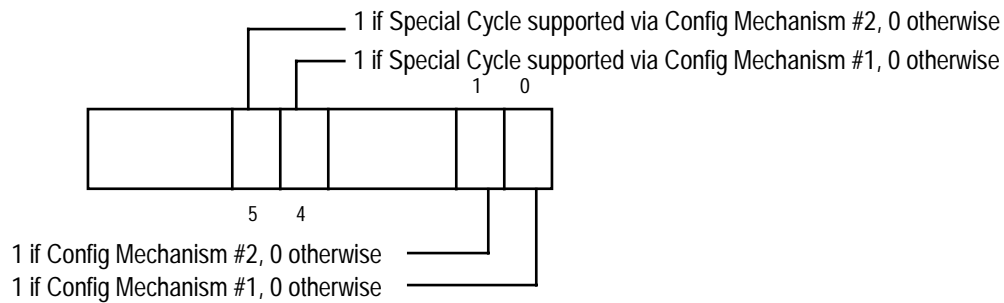

Figure 1. Layout of value returned in [AL]
The value returned in [AL] identifies what specific HW characteristics the platform supports in relation to accessing configuration space and generating PCI Special Cycles (see Figure 1). The PCI Specification defines two HW mechanisms for accessing configuration space. Bits 0 and 1 of the value returned in [AL] specify which mechanism is supported by this platform. Bit 0 will be set (1) if Mechanism #1 is supported, and reset (0) otherwise. Bit 1 will be set (1) if Mechanism #2 is supported, and reset (0) otherwise. Bits 2,3,6 and 7 are reserved and returned as zeros.